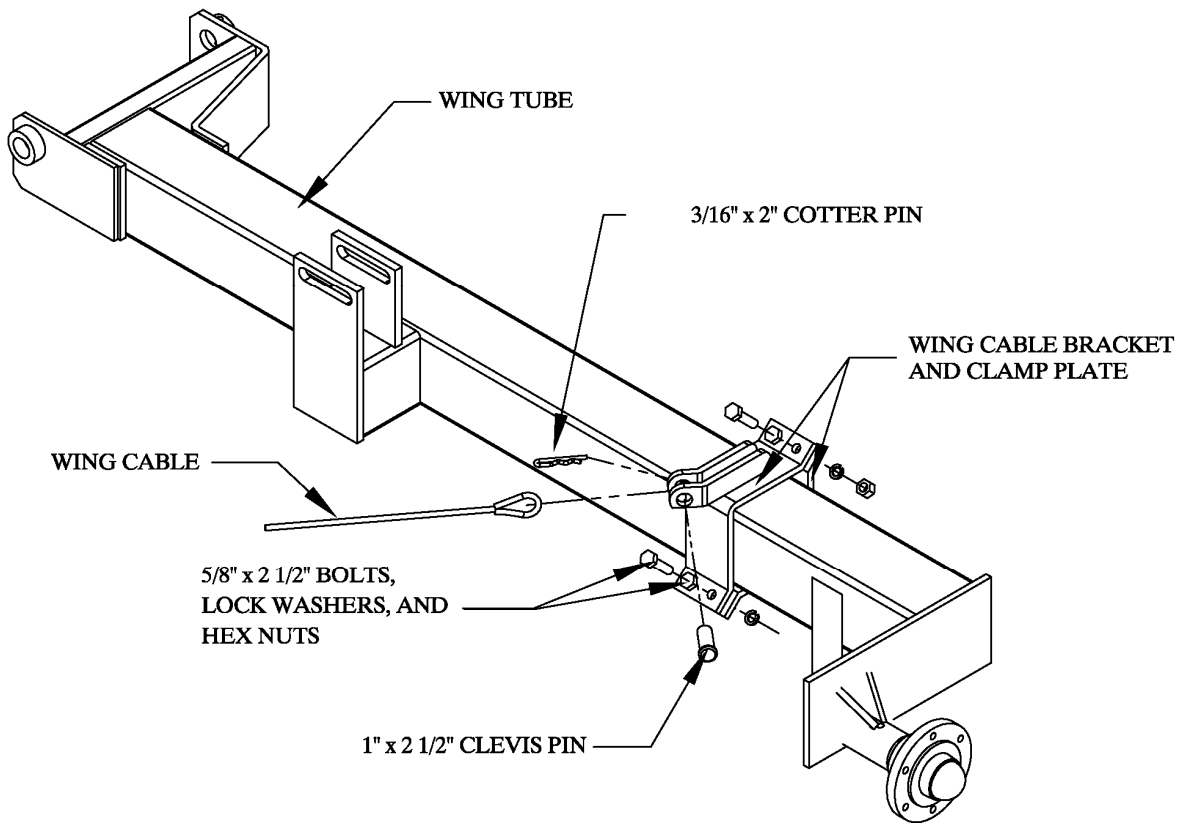

Figure 21
3. Pin the wing cable bracket to the free end of the wing cable using a 1" x 2 1/2" clevis pin and 3/16" x 2" cotter pin. Refer to Figure 21.